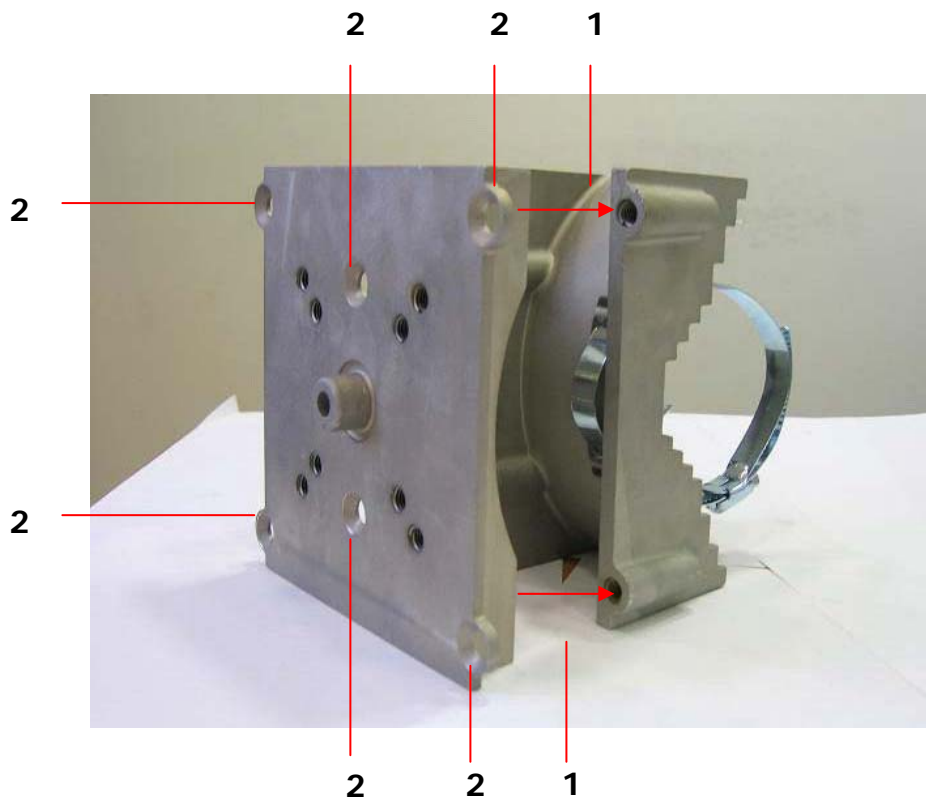

Figure 3.12 **Attaching the Back Plate to the Pole Bracket**
4. Attach the back plate to the pole bracket as labeled #1 in Figure 3.12
5. Insert the six bolts into the holes in the back plate labeled #2 in Figure 3.12 and tighten.